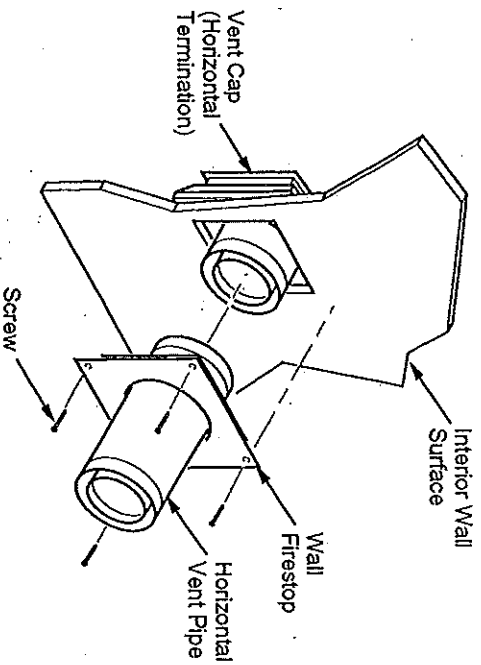

Figure 12 - Connecting Vent Cap with Horizontal Vent Pipe
7. **Combustible Exterior Wall Only:** Slide the wall firestop over the vent pipe before connecting horizontal vent cap (see Figure 12).